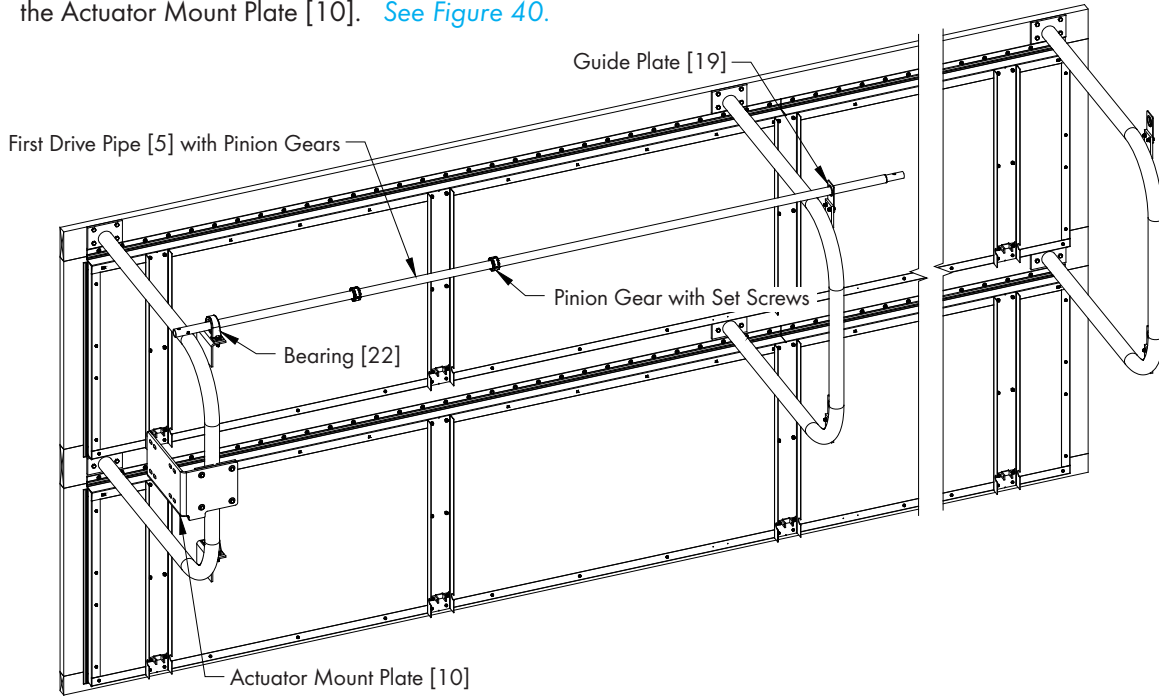

Figure 40
For the first Drive Pipe [5] with Pinion Gears, slide the swaged end of the Drive Pipe through the Bronze Bushing in Guide Plate [19]. Then slide the opposite end through Bearing [22] so that the 2 Pinion Gears are between the Bearing and the Guide Plate with the (2) pre-drilled holes on same side of the Bearing as the Actuator Mount Plate [10]. See Figure 40.